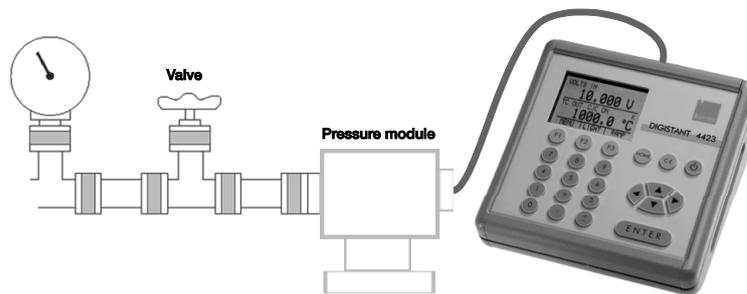

Figure 9: Connections for Measuring Pressure
- Connect the pressure module and the pressure module adaptor 7130 to the calibrator as shown in Figure 9.